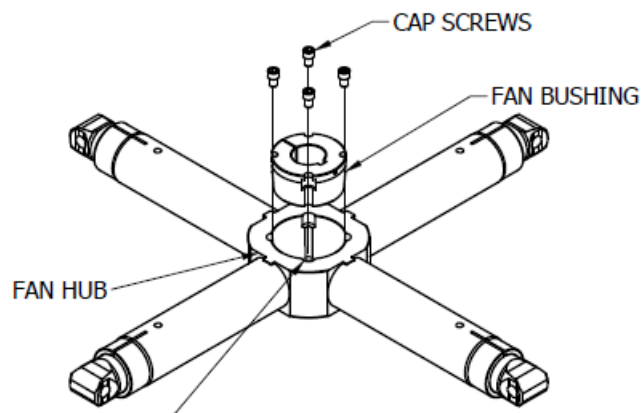

**Figure 20.** Lifting Fan from Shipping Mount
4. Lift the fan out of the shipping crate per **Figure 20** being careful not to damage the blades.